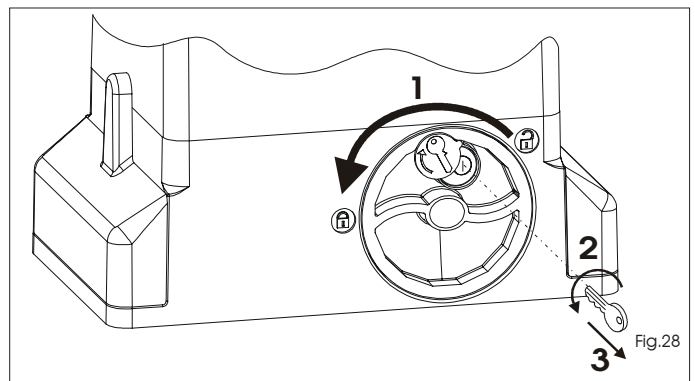

Fig.28
- 1) Turn the release system clockwise, until its stop is reached, Fig. 28 ref. 1.
- 2) Turn the key anti-clockwise and remove it from the lock, Fig. 28 ref. 2 and 3.